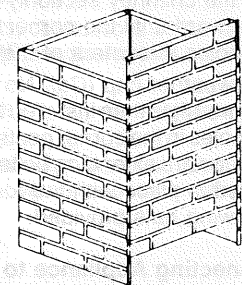

Figure 15
- (C) The four panels are assembled to form a rectangular housing by sliding the corner lock seams together, as indicated in (Figure 15). Oiling corner seams will ease assembly.
- (D) Additional chimney pipe sections are now placed on top of the chimney and locked together. The top of the uppermost section should be at a point not more than 15 inches nor less than 1 inch below the top of the housing panels. This will permit the telescoping length to extend at least 2 inches into the inner flue pipe. After the chimney sections are securely locked in place, the assembled housing panels are positioned over the chimney and against the flashing, with the vertically extending flanges of the flashing inside of the housing panels.
- (E) A 2 1/2 inch bolt is inserted through one of the holes in the upper end of the strap and up into the holes in the side panel flanges. Place a corner bracket over the bolt with the formed flanges downward. The correct hole in the strap is determined by pulling the strap up and bending it so that the bolt will extend upward approximately one half inch through the hole. A square nut is then threaded on the end of the bolt, and the strap bent double to hold the bolt from turning. All four corners are fastened in this fashion, and drawn up finger tight.